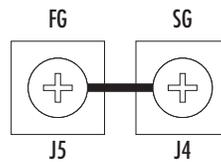

Figure 15. Frame ground connected to signal ground
3. Connect a jumper between J4 and J5 (see figure 15), then secure it with the Phillips head screws.